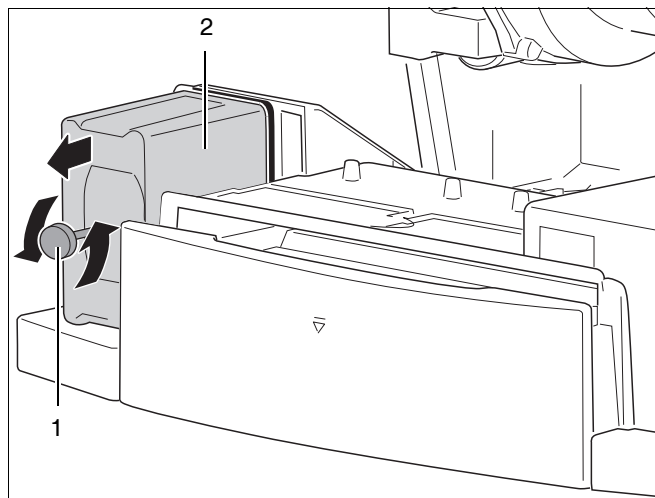

fig. 26 Dismantling the UBA 3
- Loosen the fastening screw of the UBA 3 (see fig. 26, pos. 1).
- Remove the UBA 3 by pulling it forward as indicated by the arrow (see fig. 26, pos. 2).